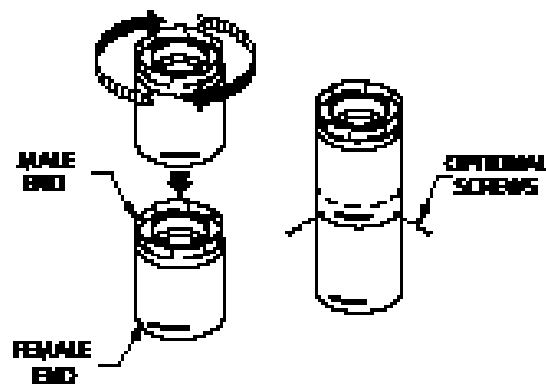
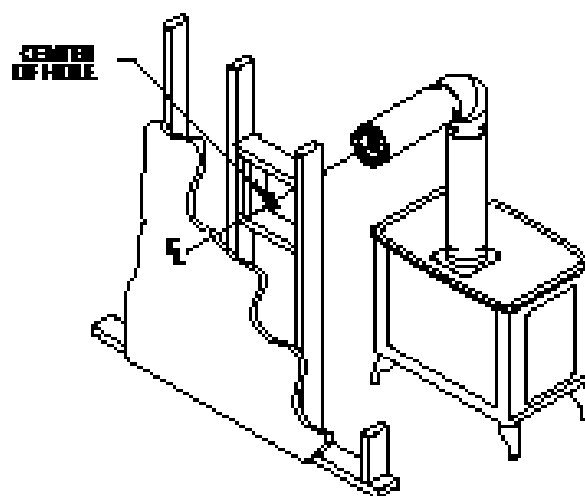

Figure 5
Figure 6
(1) **Twist-lock procedure:** Line up locking lugs on male and female ends of pipe sections. Insert the male end of pipe into the female end until the locking lugs are covered. Twist the female end clockwise an eighth of a turn to lock sections together (Fig. 5). Screws are not required to secure the joint, but are acceptable provided they do not penetrate the inner wall of the vent pipe.
(2) Horizontal runs of vent pipe must be supported to prevent any downward sags. Horizontal pipe sections should be supported at least every 4-feet. Wall Straps can be used for this purpose. Alternatively, plumbers tape or other suitable noncombustible material can be used to support the vent pipe.
(3) DirectVent Pro venting requires no sealant, unless specifically required by appliance manufacturer.
Step 3. With the Appliance Adaptor and Pipe Section attached to the appliance, slide the appliance into its correct location, and mark the wall for a square hole of the appropriate size. Refer to Table 1, page 8 for the correct size square opening unless otherwise specified by the appliance manufacturer's clearance requirements. The centerline of the pipe should line up with the center of the square hole (Fig. 6). Cut and frame the square hole in the exterior wall where the vent will be terminated. A Wall Thimble or Wall Fireslop may be required by the appliance manufacturer as additional thermal protection for the wall. If the